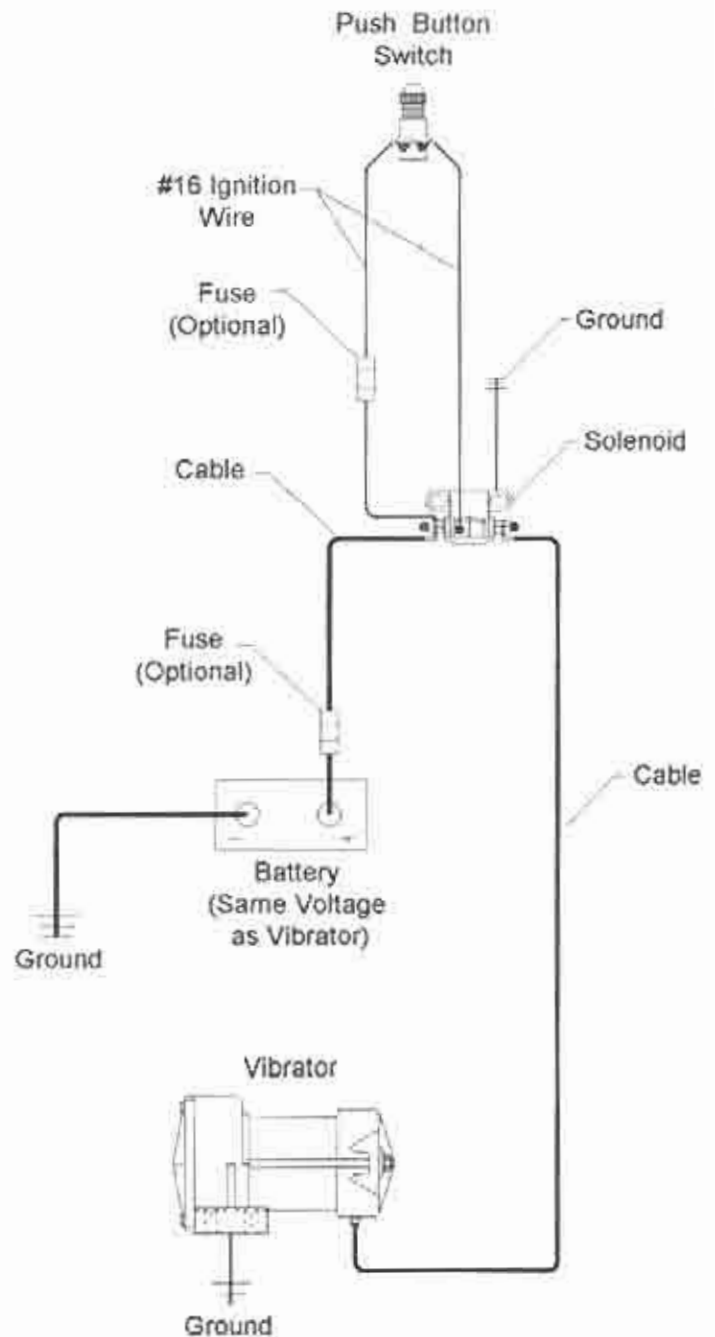

Fig. 11
2. Attach the solenoid to a grounded surface on the fire wall or other convenient surface in the truck's engine compartment. (For 24V solenoid, use one (1) of the two small terminals for ground.)
3. Connect the push button switch to the solenoid with #16 ignition wire. (See Fig. 11.)